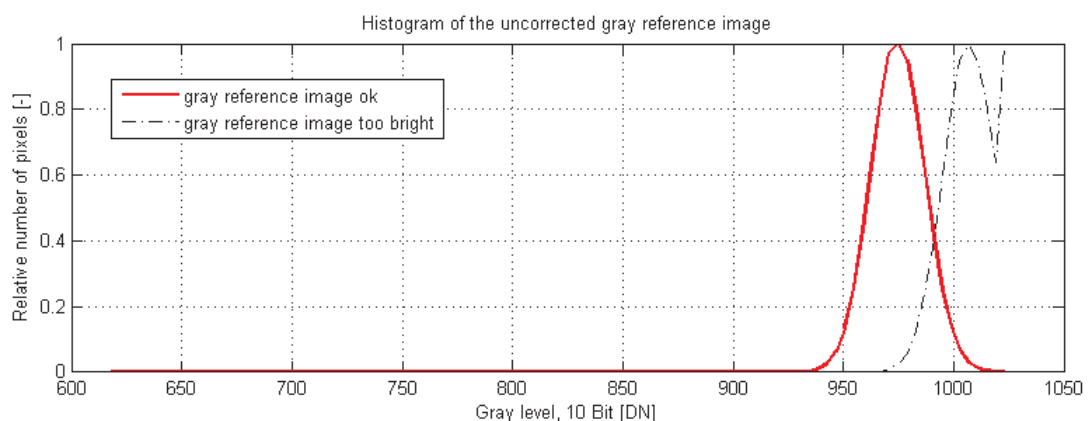

Figure 4.15: Proper grey reference image for gain correction
- When looking at the histogram of the grey reference image, ideally there are no grey levels at full scale (1023 DN @ 10 bit). All pixels that are saturated white will not be properly corrected (see Fig. 4.15).